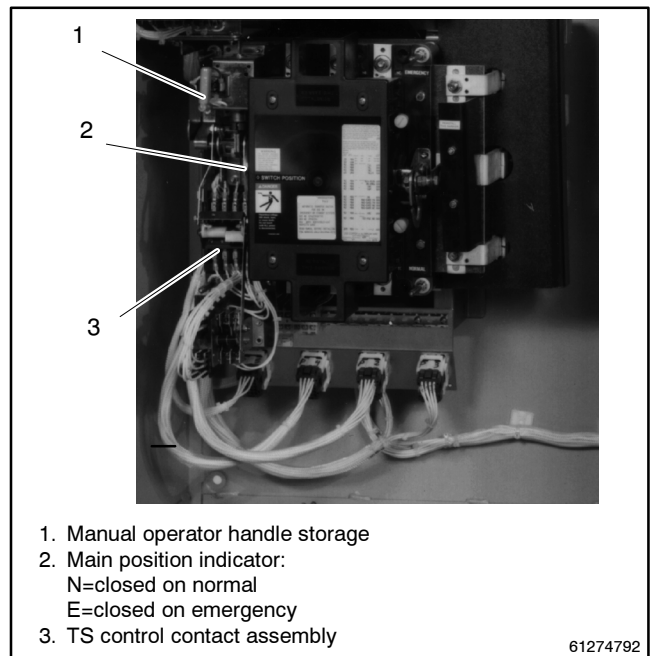

Figure 7-7 Control Contact Assembly Location
2. Locate the TS control contact assembly. See Figure 7-7.
- c. If adjustment of contacts 71-72 and 9-8 is necessary, refer to Figure 7-10. Make sure the main contacts of the transfer switch are closed on emergency (see position indicator in Figure 7-7). Use the manual operator handle, if necessary, to move the switch to the emergency position. Loosen the #8-32 hex nut that unlocks the drive bracket from the cam adjustment slot on the right side of the assembly. Rotate the cam until its top edge is within 7.1 mm (9/32 in.) from the side of
- d. If adjustment of contacts 69-70 and 7-6 is necessary, refer to Figure 7-11. Make sure the main contacts of transfer switch are closed on the normal side (see position indicator in Figure 7-7). Use the manual operator handle, if necessary to move the switch to the normal position. Loosen the 8-32 hex nut that unlocks the drive bracket from the cam adjustment slot on the left side of the assembly. Rotate the cam until its bottom edge is within 7 mm (9/32 in.) from the side of the drive bracket. Retighten the locking nut and verify adjustment as described in step 4, sections a and b.